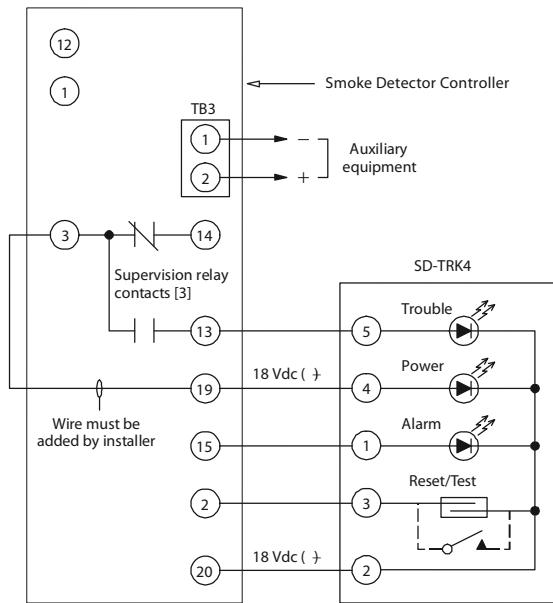

Fig. 25 – Remote Test/Reset Station Connections
The test/reset station dirty sensor test checks the test/reset station's ability to initiate a sensor dirty test and indicate the results. It must be wired to the controller as shown in Fig. 25 and configured to operate the controller's supervision relay. For more information, see "Changing the Dirty Sensor Test."
1. Verify that the remote test/station is wired as shown in Fig. 25. Repair or replace loose or missing wiring.